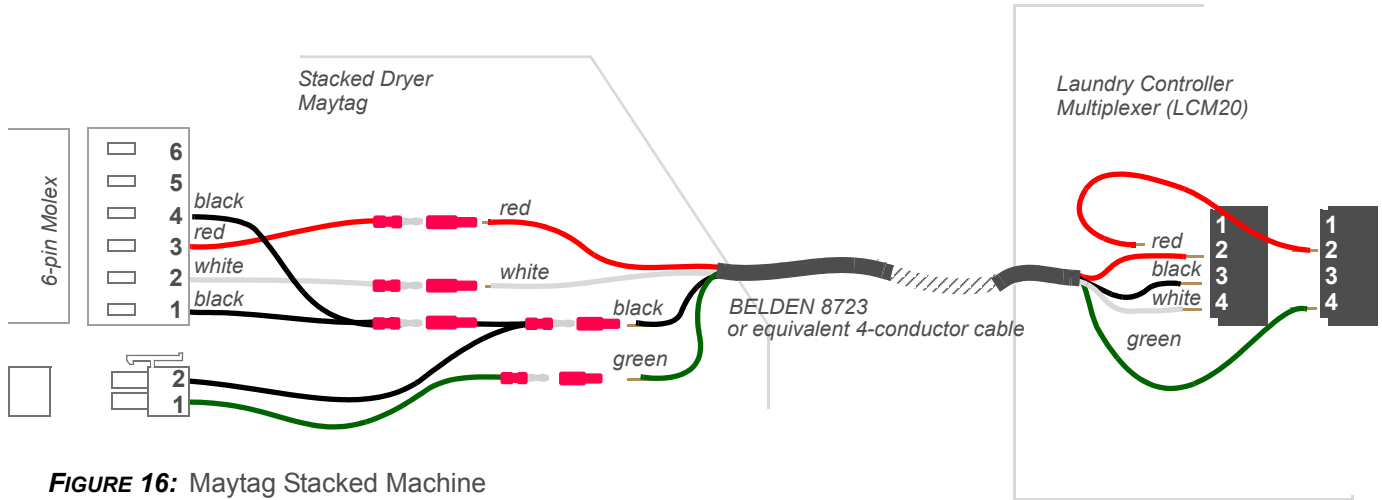

FIGURE 16: Maytag Stacked Machine
- 5 Install the LCI into the machine circuit board's six-pin Molex (see Figure 16), and if a stacked dryer, adjacent 2-pin Molex.